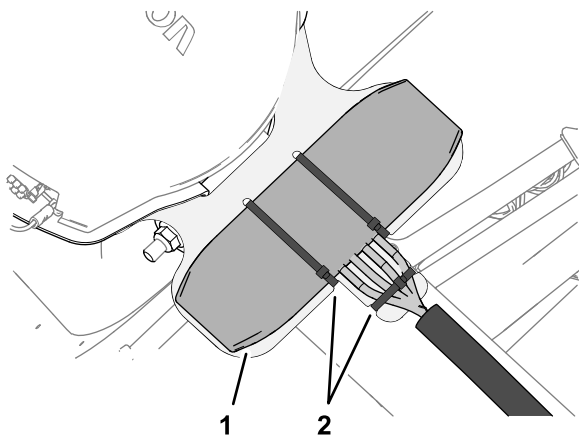

Figure 158
- Secure the antenna bracket with 3 cable ties as shown in Figure 158.
5. Secure the wire harness of the modem antenna to the bracket as shown in Figure 158.